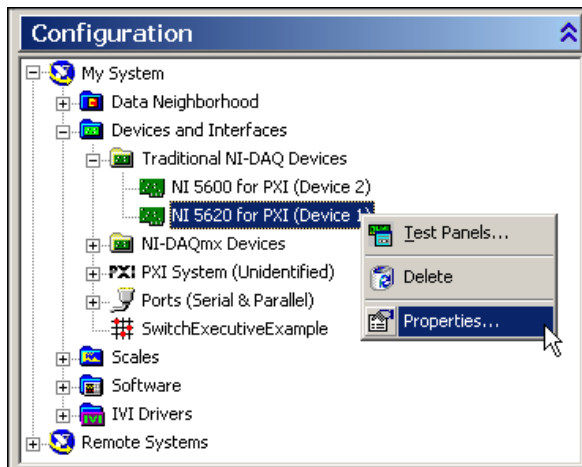

Figure B-1. Select Properties from the NI 5620 Right-Click Menu
4. Right-click **NI 5620** and select **Properties**, as shown in Figure B-1.